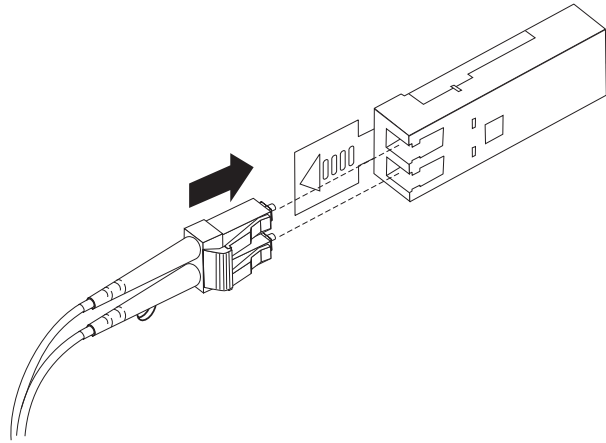

Figure 36. Inserting an LC-LC fibre-channel cable into an SFP module
4. Carefully insert this end of the LC-LC cable into an SFP module that is installed in the EXP810. The cable connector is keyed to ensure it is inserted into the SFP module correctly. Holding the connector, push in the cable until it clicks into place, as shown in Figure 36.